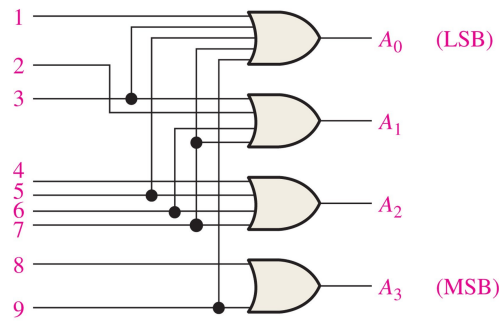

Figure 2: A decimal to binary encoder circuit.
4. Consider Fig. 2, in which a decimal to binary conversion circuit is shown. (a) Add logic to the circuit such that it becomes a hexadecimal to binary converter. (b) Draw a logic symbol for this circuit with the correct number